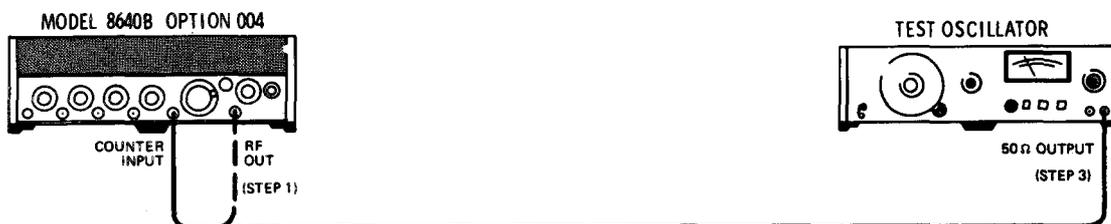

Figure 4-32. Counter External Sensitivity Test Setup
1. Connect RF OUT to COUNTER INPUT as shown in Figure 4-32 after setting Signal Generator's controls as follows: